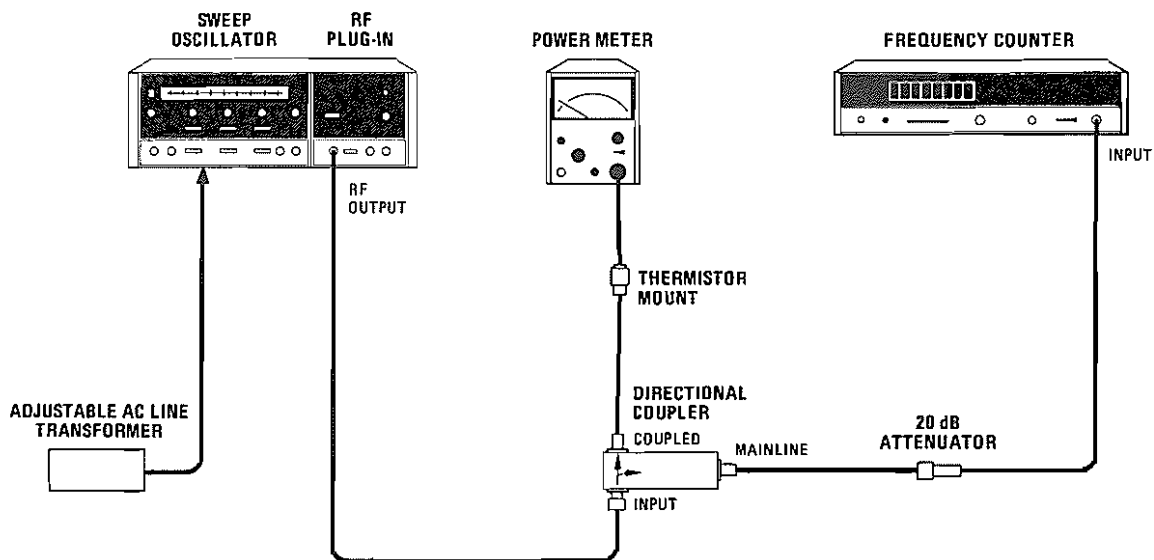

Figure 4-3. Frequency Stability Test Setup
Equipment listed is for two test setups (Figure 4-3 and 4-4).
a. Connect equipment as shown in Figure 4-3.